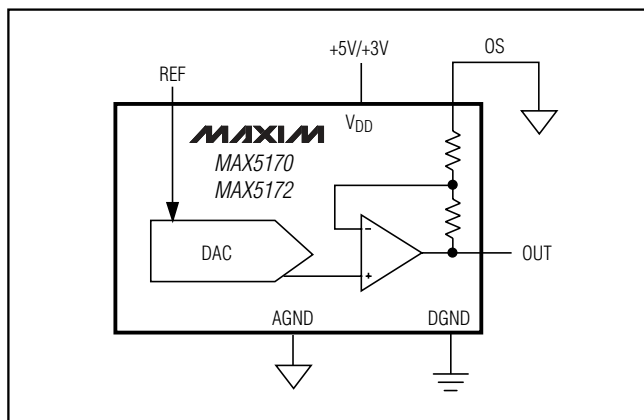
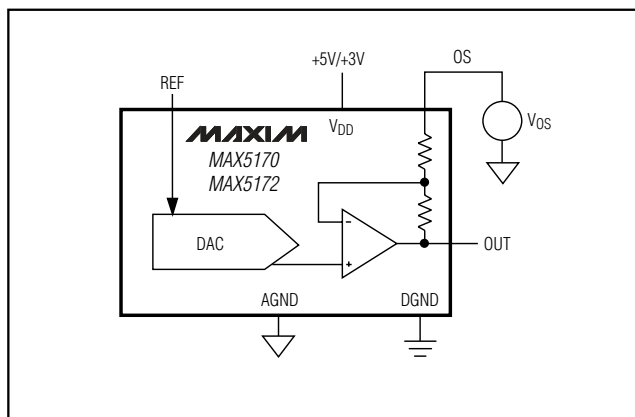

Figure 6. Unipolar Output Circuit (Rail-to-Rail)
Figure 7. Setting OS for Output Offset
Figure 6 shows the MAX5170/MAX5172 configured for unipolar, rail-to-rail operation with a gain of +1.638V/V. Table 2 lists the codes for unipolar output voltages. The maximum output voltage is limited to VDD. Use the OS pin to introduce an offset voltage as shown in Figure 7 and described in the *Offset and Buffer Configurations* section.
**Table 2. Unipolar Code Table (Circuit of Figure 6)**
The simple circuit of Figure 7 illustrates how to introduce an offset to the output voltage. The amount of offset introduced by a voltage at the OS pin is shown in the following equation: